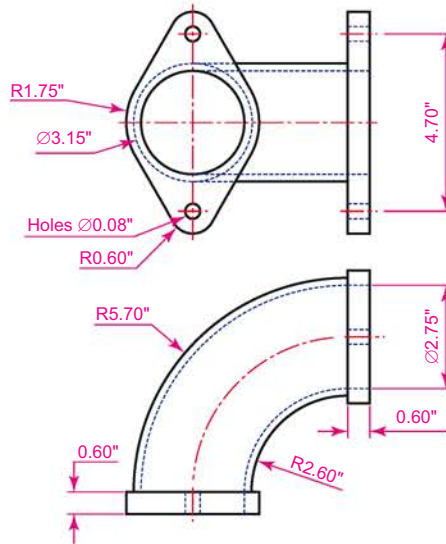

Fig. 18.38 Exercise 3 – details of shape and sizes
3. The two-view projection Fig. 18.38 shows a ducting pipe. Construct a 3D model drawing of the pipe. Place in a **SW Isometric** view, add lighting to the scene and a material to the model and render.